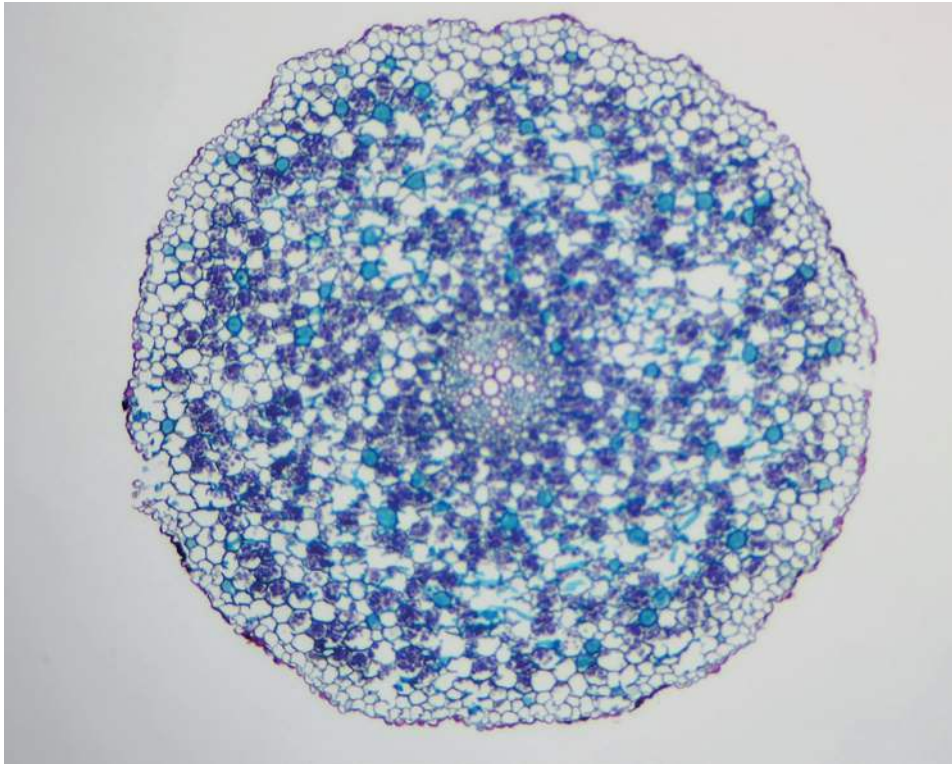
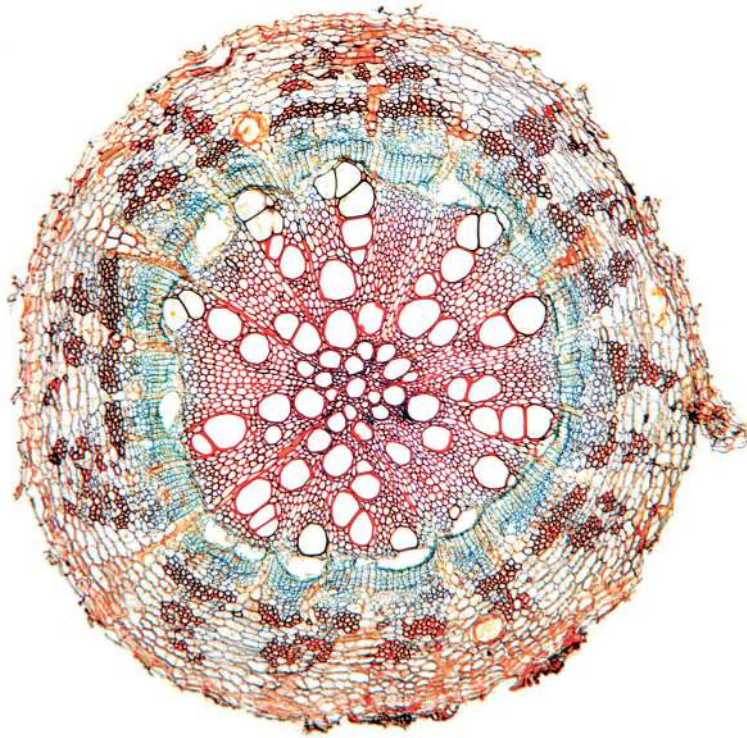
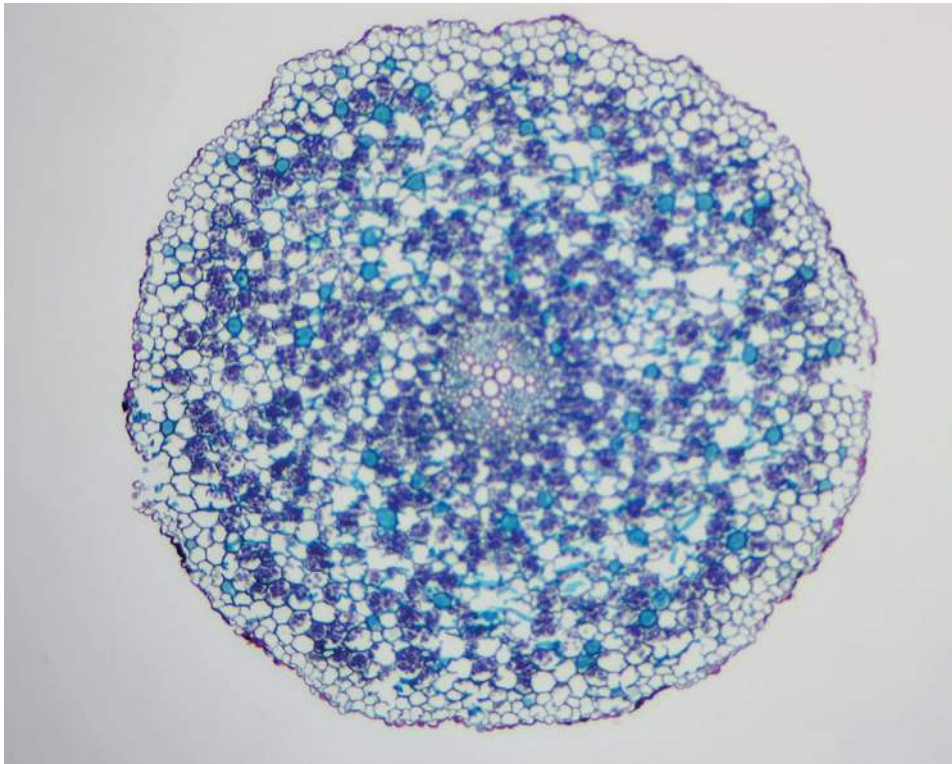

Fig. 2.3
Fig. 2.4
Fig. 2.5
- (b) Fig. 2.3 is a photomicrograph of a transverse section of a plant root containing starch grains. The section has been stained with iodine solution.
Draw a large plan diagram of the transverse section of the whole root shown in Fig. 2.3.
- (c) Fig. 2.4 is a photomicrograph of a stained transverse section through a root of a different type of plant.
Fig. 2.5 is a photomicrograph of the same root section that is shown in Fig. 2.3.
Prepare an appropriate table so that it is suitable for you to record the observable differences between the root in Fig. 2.4 and the root in Fig. 2.5.